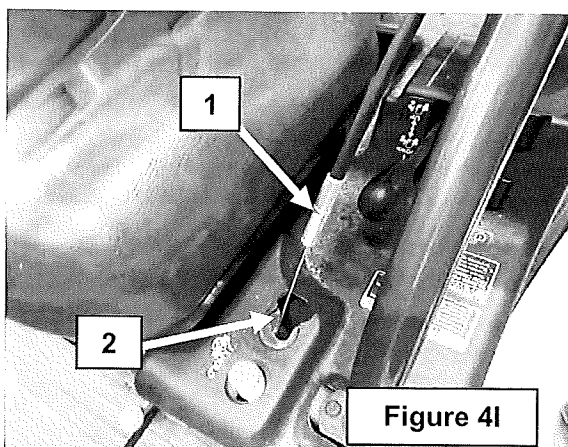

Figure 4l
14. **Figure 4l:** Insert the cable (item 1) in the enlarged hole (item 2) as shown in figure.